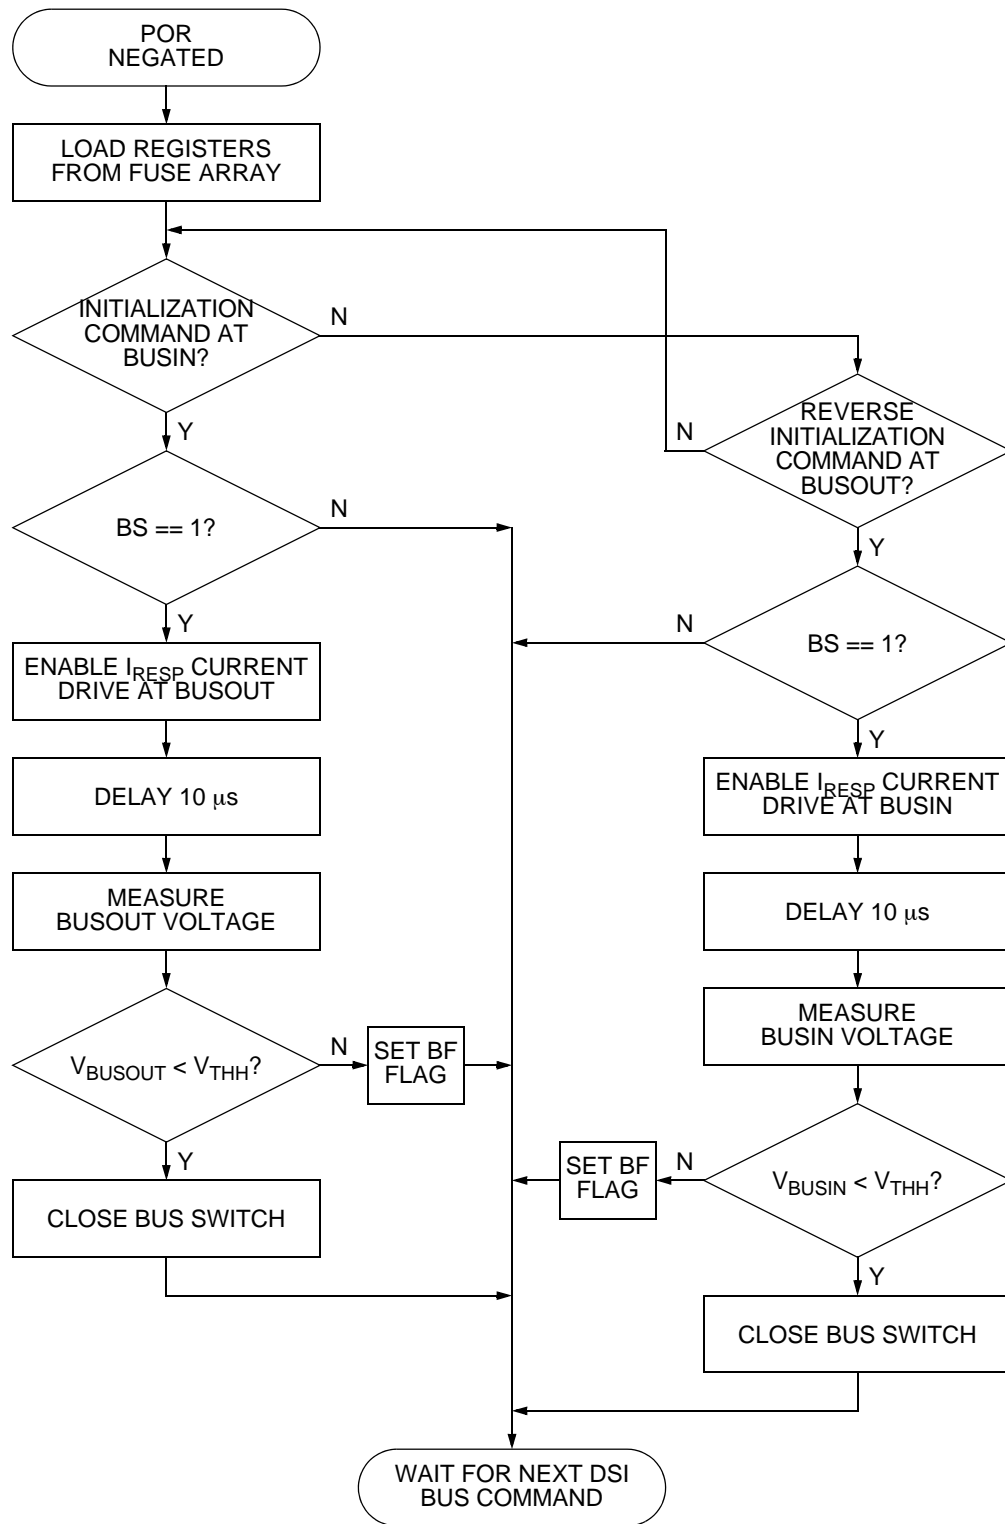

Figure 4-1. Initialization Sequence
**Figure 4-1** illustrates the sequence of operations performed following negation of internal Power-On Reset (POR) and execution of a DSI Initialization command. Initialization commands are recognized only at BUSIN. The BUSOUT node is tested for a bus short to battery high voltage condition, and the Bus Fault (BF) flag set if an error condition is detected. If no bus fault condition is detected and the BS bit is set in the command structure, the bus switch will be closed. If the BS bit is set, the DSI bus voltage level is disregarded for approximately 180  $\mu$ s following initialization to allow the hold capacitor on a downstream slave to charge.